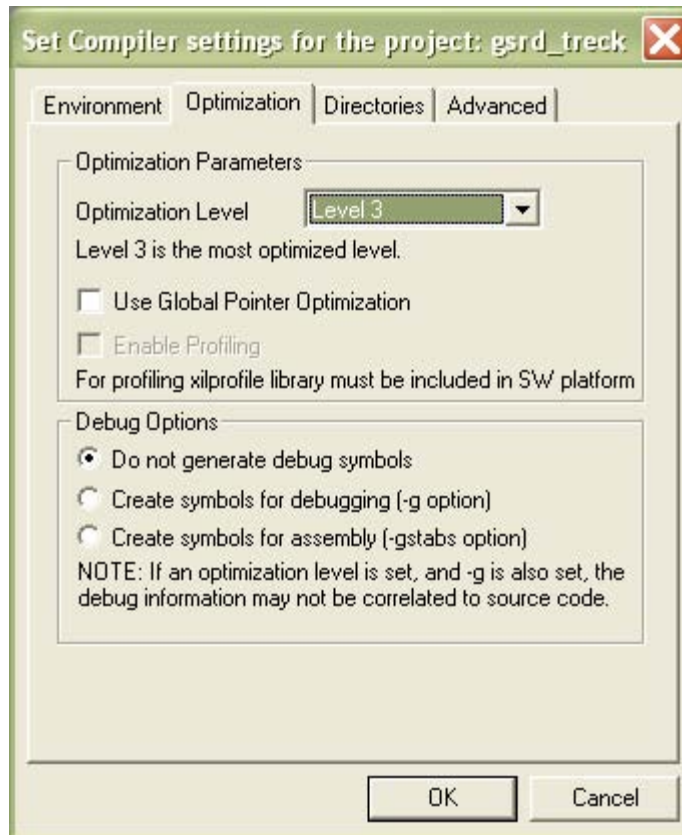

Figure 9: Set the Optimization Level
14. Under the Optimization tab (Figure 9), optionally change the Optimization level to "Level 3" and choose "Do not generate debug symbols" under debug options for maximum performance.